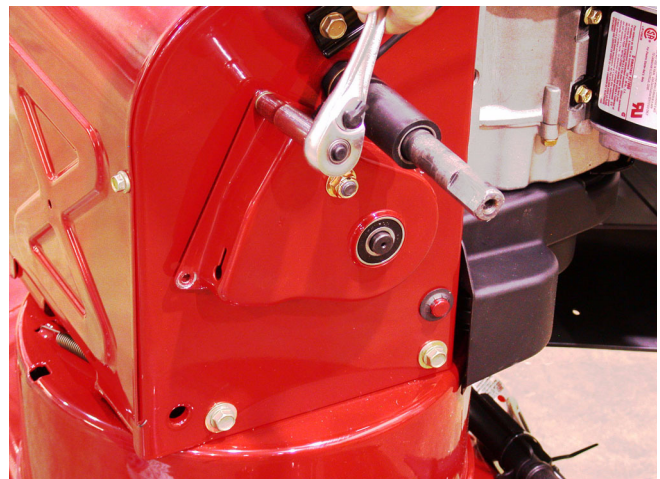

Figure 12.6
- 12.6. Remove the (4) screws that secure the shaft retainer housing with a 3/8" socket. See Figure 12.6.